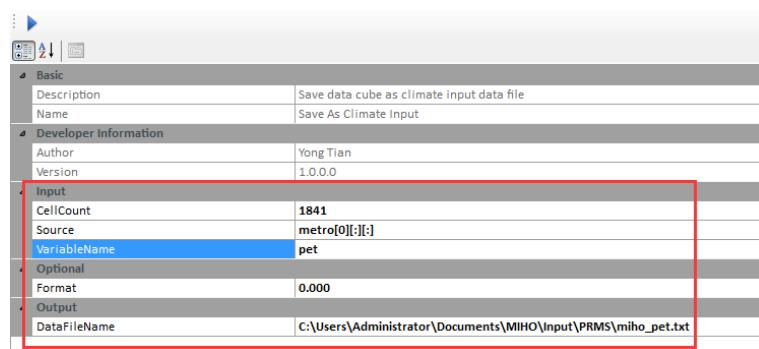

Figure 6-6. Settings used to generate the PET input file.
- 8) In the Model Toolbox View, double click the tool Driving Forces -> Save As Climate Input, set the input and output as shown Figure 6-6 to save PET input file.